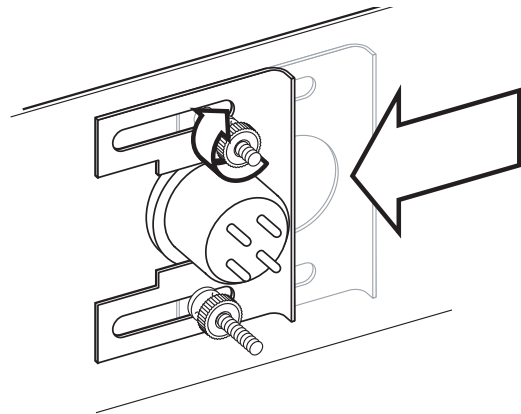

Fig. 2 Lamp is secured with a sliding bracket tightened with two knurled nuts.
**INSTALLING THE FIXED-LAMP** (Fig.2 )